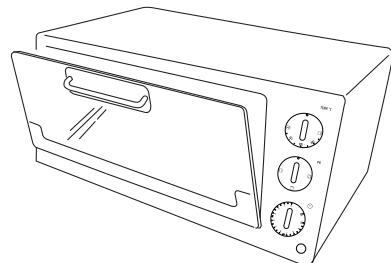

fig. 1
- Place the food to be grilled on the broil rack (P) inserted on the bake pan (H), and place them together in the guide 1.
- Close the door until you hear a "click" (see figure 1).
- Turn the function selector knob (D) to the  position.
- Rotate the timer knob (B) to the "ON" position.
- After cooking, manually turn the Timer knob (B) back to "0" position.
- Turn the thermostat knob (A) to position .
- Turn the function knob (D) to position .